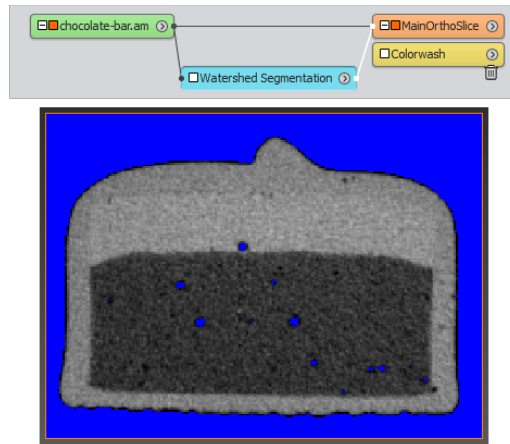

Figure 6.74: The *Watershed Segmentation* wizard at step 4.
- You can use 0-435 as range (see Figure 6.74).